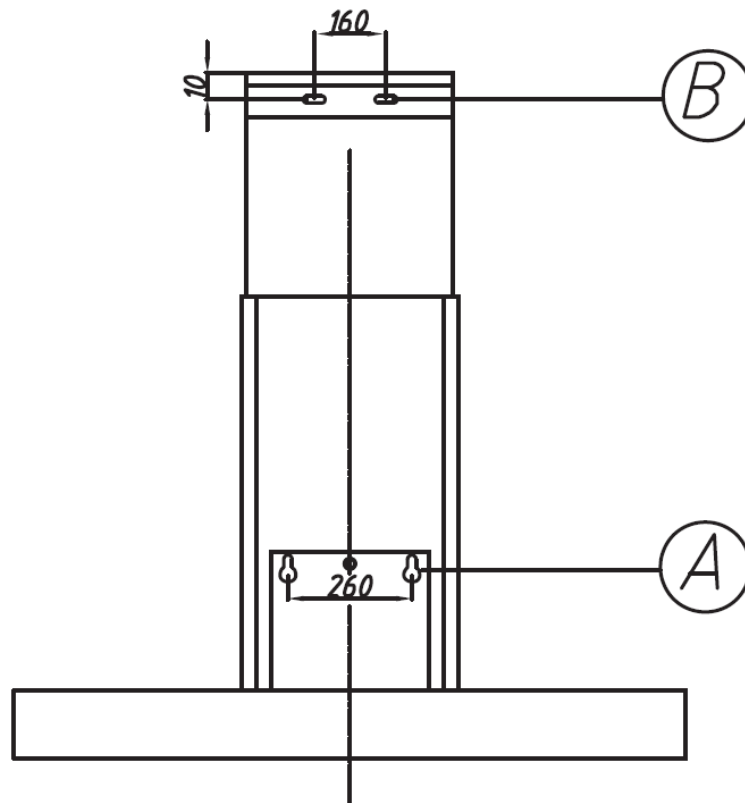

Fig 1.
1. At the two range hood mounting points marked in H (refer to page 4), drill a small pilot hole using a $\varnothing 6$ drill bit, to a depth of approximately 40mm. After drilling, the distance between two mounting holes should be 260mm shown as A in Fig 1. below.
1. At the two flue bracket mounting points marked in J (refer to page 4), drill a small pilot hole using a 6mm drill bit, to a depth of approximately 40mm. After drilling, the distance between two mounting holes should be 160mm as indicated as B in above Fig. 1 (refer to page 5).